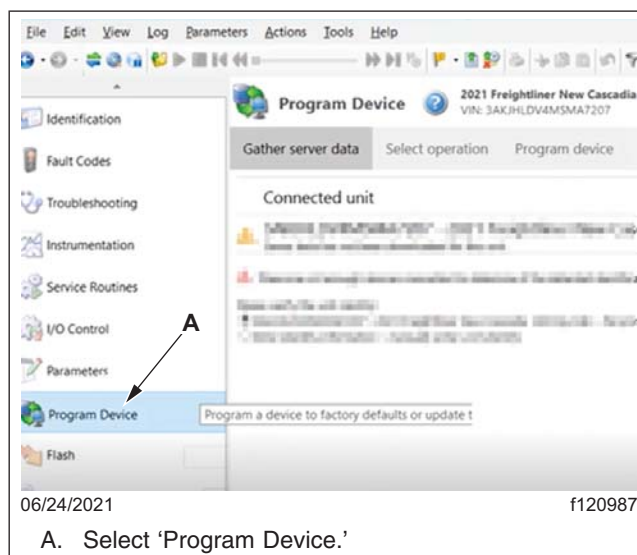

Fig. 12, Selecting Program Device
- Select 'Program Device' on the left-hand side of the window. See Fig. 12.